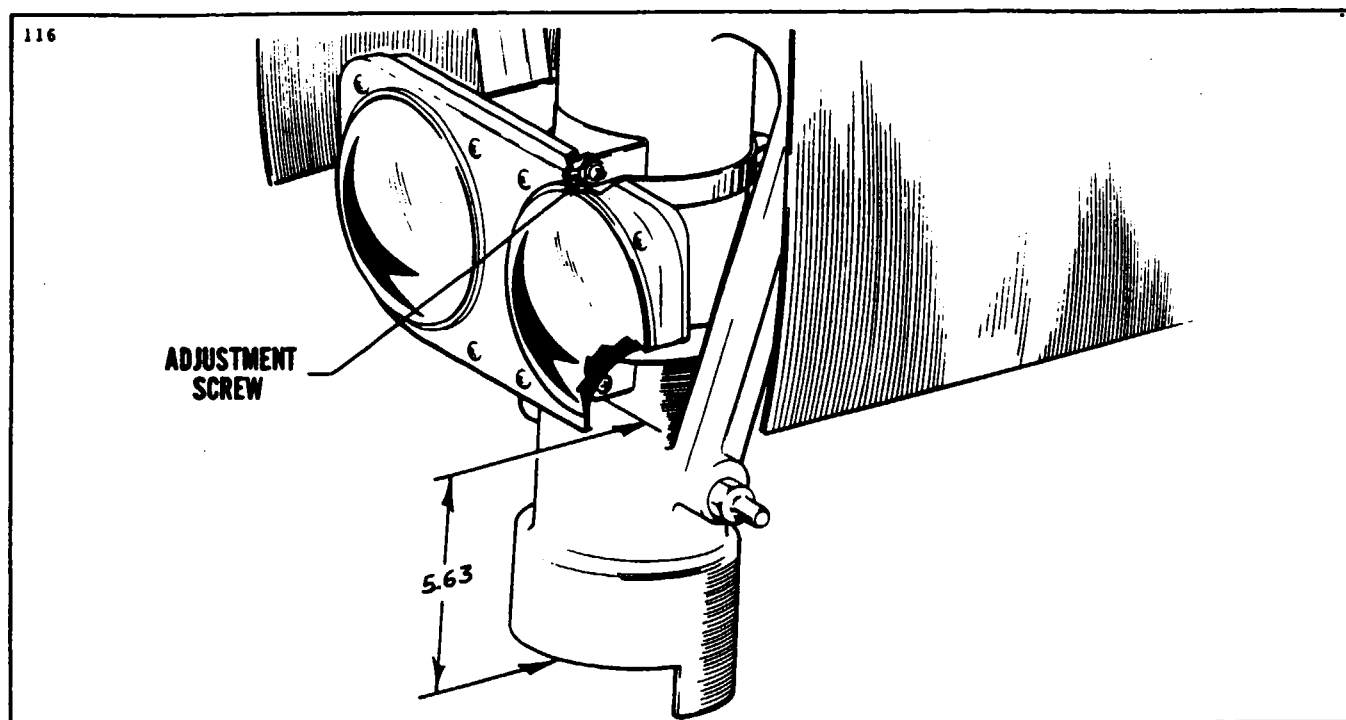

Figure 11-23. Landing and Taxi Lights
11-73. LANDING AND TAXI LIGHTS. These lights consist of two 250 watt lamps which are located on a mounting fixture secured to the nose gear oleo strut housing. Both lamps are used for landing and one lamp is used while taxiing. Each lamp is controlled by a separate switch mounted on the overhead switch panel. (Refer to Figure 11-23.) Both lamps are wired to the same 20 amp circuit protector mounted in the circuit protector panel. There is a safety switch mounted on the nose gear strut which will break the circuit to the lights when the nose gear is retracted in case the pilot forgets to shut the switches.
11-74. REMOVAL OF LANDING AND TAXI LIGHTS. (Refer to Figure 11-23.)
11-75. INSTALLATION OF LANDING AND TAXI LIGHTS. (Refer to Figure 11-23.)
- c. To install the landing light assembly to the strut, position the assembly against the strut housing with the bottom of the mounting fixture 5.63 inches up from the bottom of the strut housing. (Refer to Figure 11-23.)